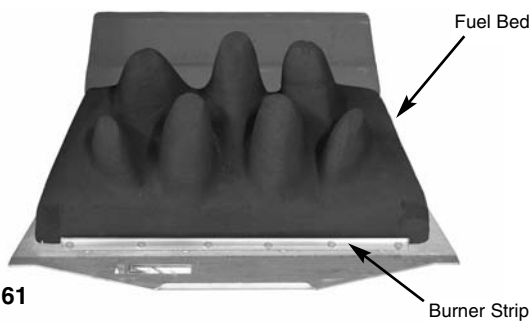

Fig. 61
2. Place the main fuel bed on to the middle section of the metal burner tray. It is important that the front edge of the fuel bed is located behind the burner strip (Fig. 61).